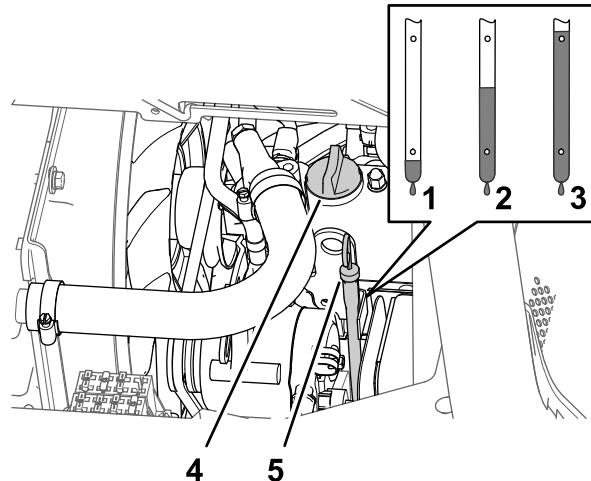

Figure 112
5. Remove the oil-filler cap from the filler neck of the valve cover of the engine (Figure 112) and slowly pour approximately 80% of the specified amount of oil into the filler neck.
6. Remove the dipstick and check the oil level in the engine (Figure 112).
7. Slowly add additional specified oil to bring the oil level to the full mark on the dipstick (Figure 112).
8. Install the oil-filler cap into the filler neck and the dipstick into the dipstick tube (Figure 112).